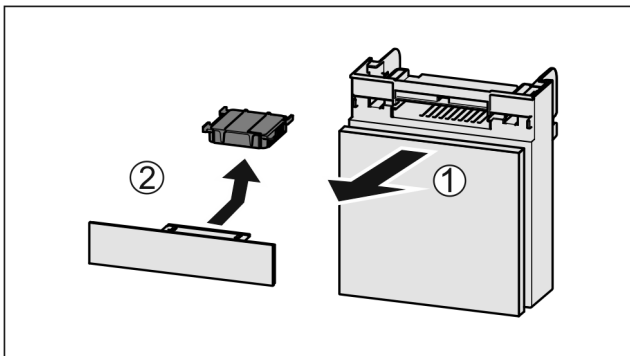

Fig. 84
- ▶ Pull out the compartment Fig. 84 (1).
- ▶ Remove the carbon filter Fig. 84 (2).